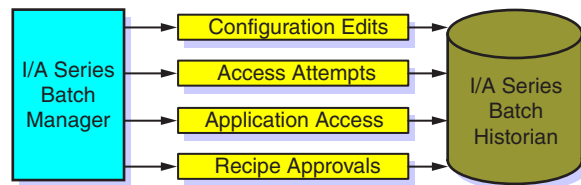

Figure 7. Batch Security History
- Security events occur whenever the Batch Manager captures and logs security events to the Batch Historian (refer to Figure 7). Configuration edits include security database changes such as deleting a user and changing a user's password.